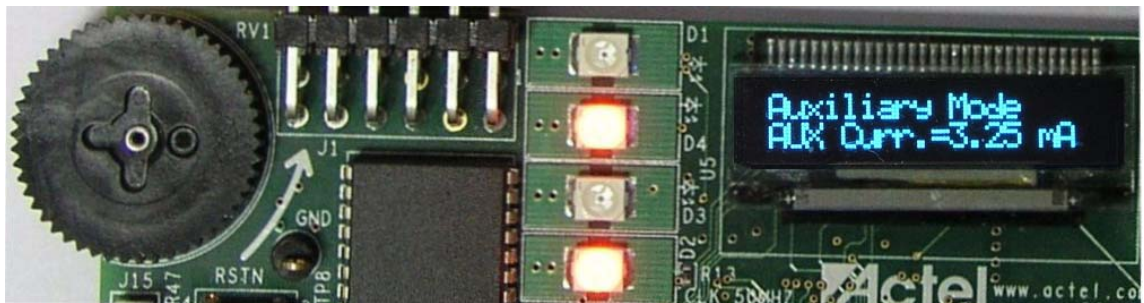

Figure 2-15 · Auxiliary Mode – Current Measurement
- Press SW3 to see the external current measured at the AC5 channel (Figure 2-15).